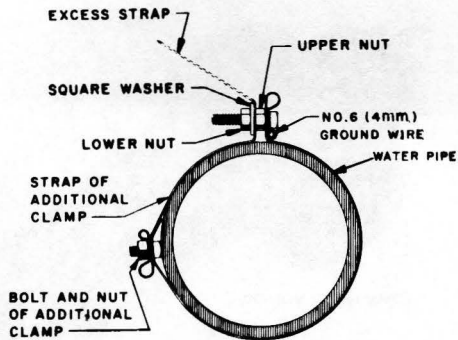
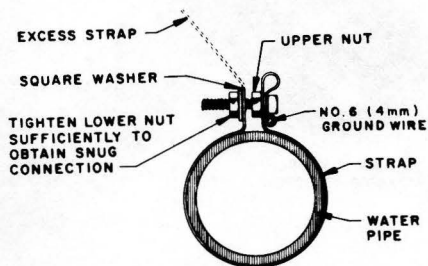
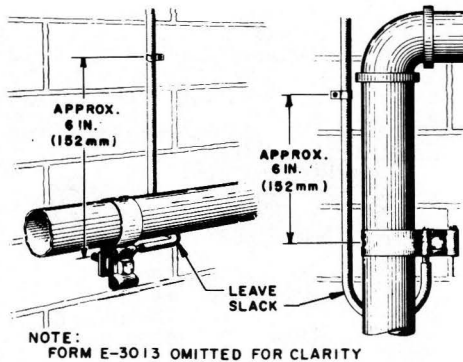

Fig. 62—Attaching L Ground Clamp to Pipes Larger Than 3 Inches
Fig. 63—Attaching L Ground Clamp to 3-Inch and Smaller Pipe
Fig. 64—Typical Installation—L Ground Clamp
(5) Bend the strap around the pipe and engage the bolt with the farthest possible hole from the end of the strap. (On pipes larger than 3 inches, fasten two straps together [Fig. 62].)
(6) Mount the square washer and lower nut on the bolt of the initial clamp and tighten nut.
(7) Break off excess strap at the square washer and cut off excess length of bolt if it interferes with the installation of the clamp or projects in a hazardous manner (Fig. 63). (See Fig. 64 for typical installations of L ground clamp.)